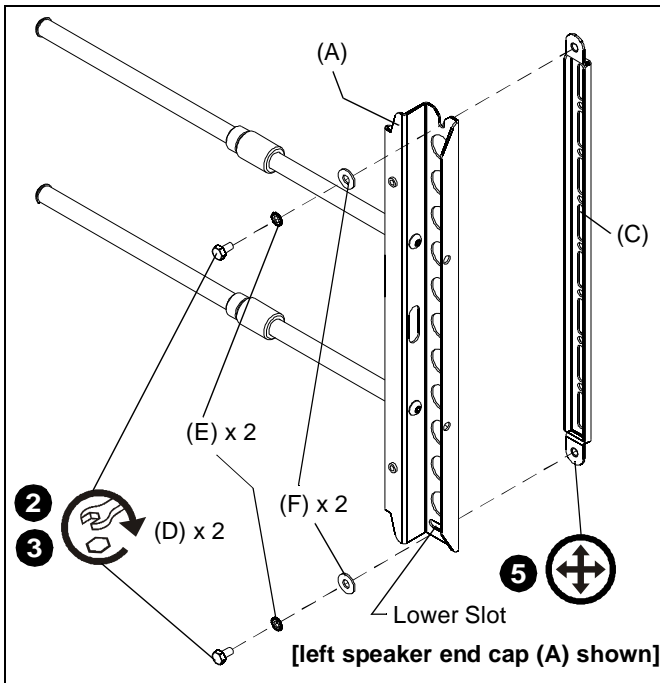

Figure 4
1. Attach speakers (not included) to speaker brackets (C) following instructions included with speakers.
2. Loosely attach one 1/4-20 x 1/2" hex head cap screw (D), one 1/4" lock washer (E) and one 1/4" flat washer (F) to top of each of the speaker brackets (C). (See Figure 4)
3. Hang speaker brackets (with attached speakers) on the left and right speaker extensions, and loosely attach bottom of speaker brackets (C) to speaker extensions using one 1/4-20 x 1/2" hex head cap screw (D), one 1/4" lock washer (E) and one 1/4" flat washer (F) on each speaker extension. (See Figure 4)
5. Adjust and level speaker brackets (C) using lower slot. (See Figure 4)
7. Turn knob (G) outward on both left and right speaker brackets until the knob contacts the wall. This will allow vertical leveling of the speakers.